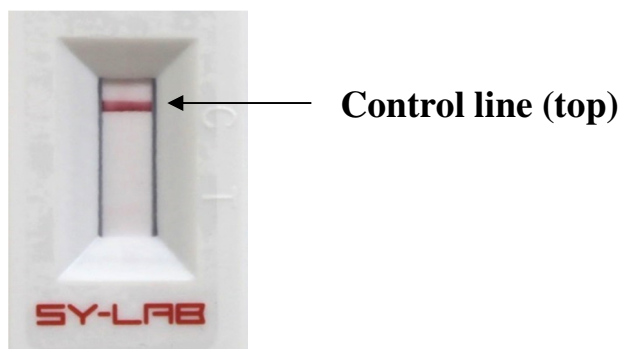

**Fig. 2: Positive result:**
**Evaluation:** Figs. 2 - 4 show viewing windows displaying possible results of RiboFlow® *E. coli* lateral flow assays.